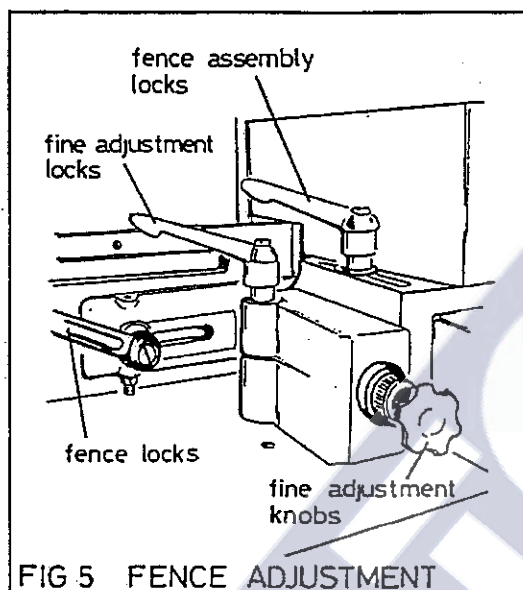
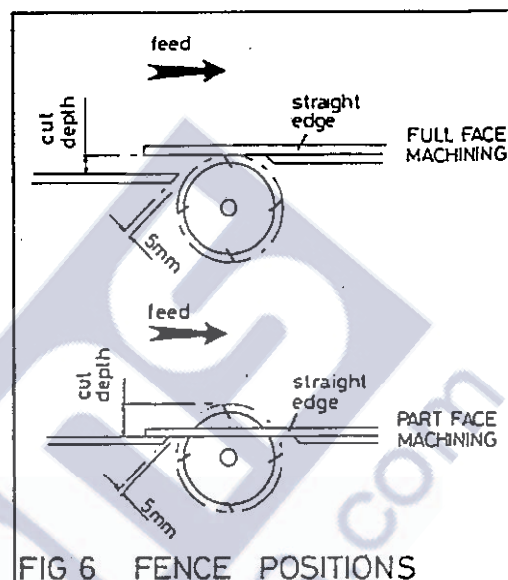

FIG 5 FENCE ADJUSTMENT
FIG 6 FENCE POSITIONS
Straight Fence Adjustment (Fig 5, Fig 6)
- 3) To remove or replace the outer rings the fence locks have to be totally unscrewed and the fences removed (see Section 3- Straight fence adjustment Fig 5).